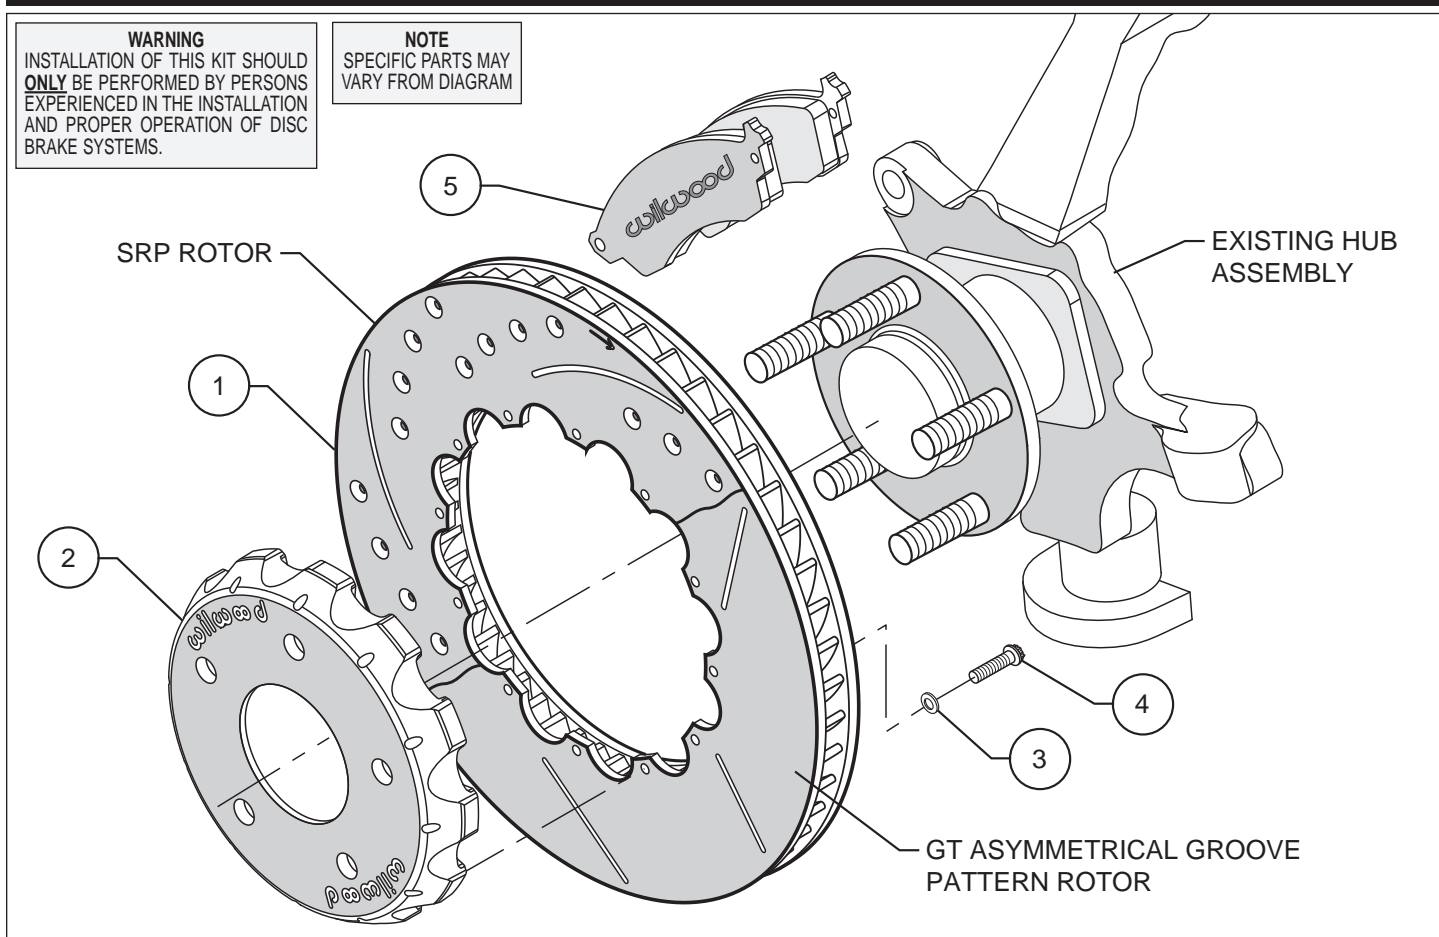
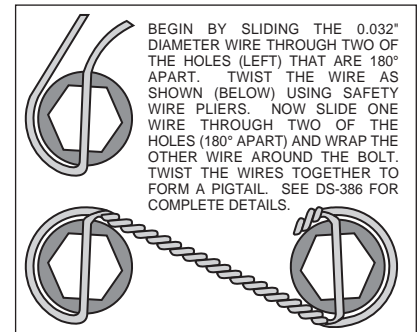
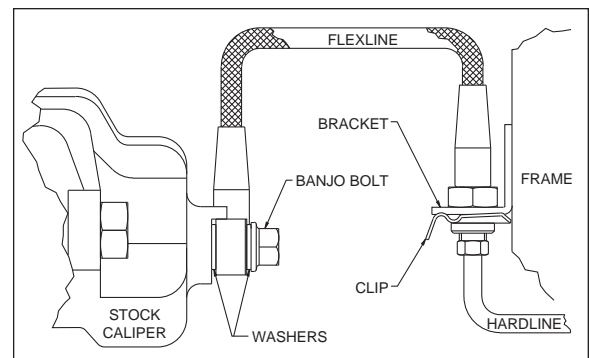

Figure 1. Typical Installation Configuration
Figure 2. Safety Wire Diagram
Figure 3. Brake Line Diagram
- Assemble the rotor (1) to the hat (2) with the bolts (4) and washers (3) provided in the configuration shown in Figure 1. Be sure all bolts thread in smoothly and are snug. Using an alternating sequence, apply red *Loctite*® 271 to the threads and torque bolts to 155 **in-lb**. For an added measure of security, the bolts may be safety wired using standard 0.032 inch diameter stainless steel safety wire as shown in Figure 2. Please refer to Wilwood's data sheet DS-386 (available at www.wilwood.com/Pdf/DataSheets/ds386.pdf) for complete safety wire installation instructions.
- Align the hole pattern on the hat (2) with the stud pattern on the hub. Slide the hat and rotor assembly (1 and 2) onto the hub. Check to be sure the hat seats squarely against the hub face. The hub must be free from any rust, debris, casting burrs, machining irregularities, etc. Use several lug nuts to hold the rotor and hat firmly against the hub face.
- Install new Wilwood brake pads (5) into stock caliper.
- Install Wilwood's stainless steel braided flexline hose kit (6), see figure 3, P/N 220-8516.
- Using new mounting hardware supplied in the kit (6), bolt flexline to back of stock caliper, see Figure 3. Torque banjo bolt to specifications included with the flexline kit (DS-573).